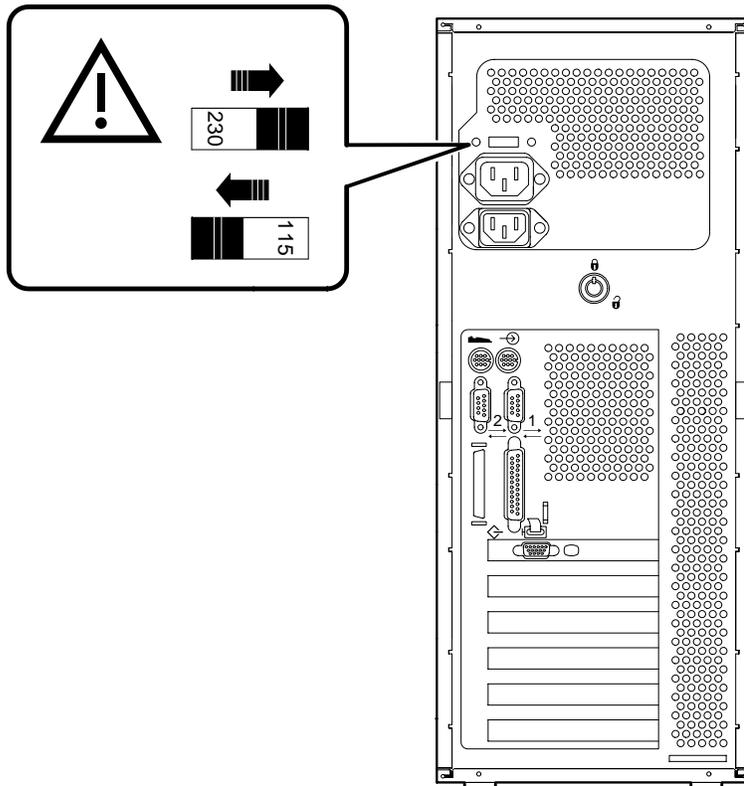

Figure 1-4. Voltage Selector Switch
1. Confirm that the voltage selector switch matches your local voltage (either 115 V or 230 V), as Figure 1-4 shows.